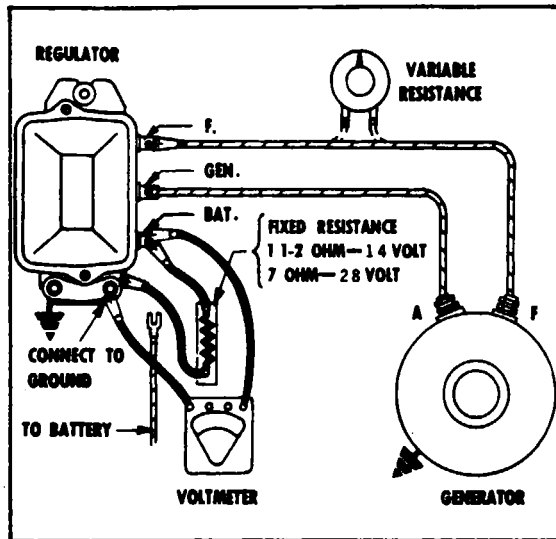

Figure 11-7. Checking Voltage Setting - Fixed Resistance Method
b. Voltage Setting: There are two ways to check the voltage setting; the fixed resistance method and the variable resistance method. (Refer to Figures 11-7 and 11-8.)
(a) Connect a fixed resistance between the battery terminal and ground as shown in Figure 11-7 after disconnecting the battery lead from the battery terminal of the regulator. The resistance must be one and one-half ohms for 14-volt and seven ohms for 28-volt units. It must be capable of carrying 10 amperes without any change of resistance with temperature changes.
Method 2: Connect a variable resistance into the field circuit as in Figure 11-7. Turn out all resistance. Operate the generator at specified speed. Slowly increase (turn in) resistance until generator voltage is reduced to 4-volts. Turn out all resistance again and note voltage setting (with voltmeter connected as shown in Figure 11-7). Regulator cover must be in place.
(a) Connect ammeter and one-quarter ohm variable resistor in series with the battery as shown in Figure 11-7.
It is very important that the variable resistance be connected at the BAT terminal as shown in Figure 11-7 rather than at the GEN terminal even though these terminals are in the same circuit. An examination of the wiring diagram, Figure 11-3, will show that regulation begins at the point where the shunt windings are connected to the series circuit. Any small resistance added to the circuit between the generator and this point will simply be offset by a rise in generator voltage without affecting the output shown at the ammeter.